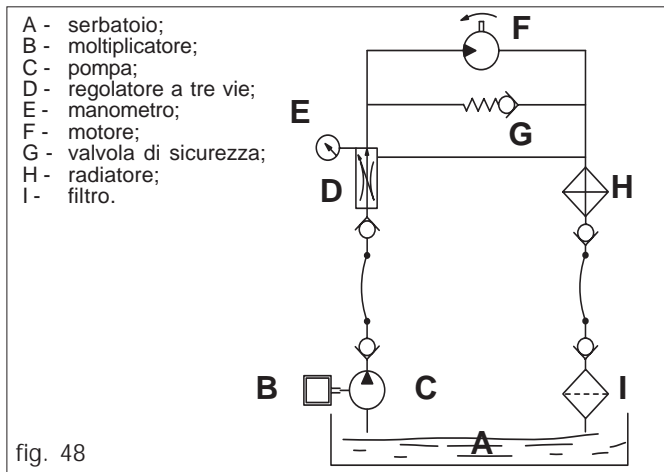

fig. 48
- Oil supply: follow the data in the table in Fig. 48.
Connect the multiplier (2) to the machinery power take-off as shown in figure 48.